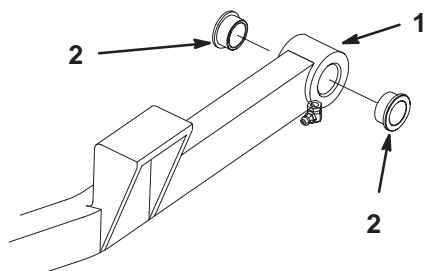

Figure 43
4. Insert a pin punch into the push arm and carefully drive out the bushings (Fig. 43). Clean the inside of the push arm.
5. Use a hammer and flat plate to carefully drive new bushings into the end of push arm (Fig. 43).